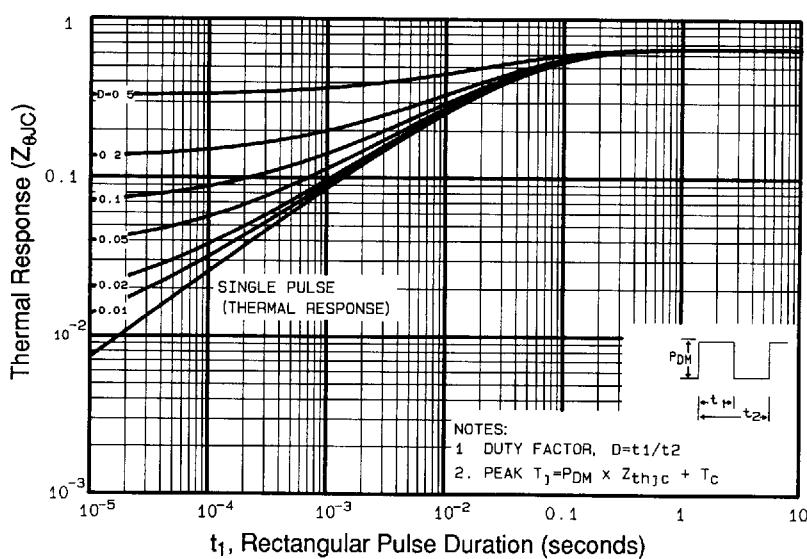

Fig 11. Maximum Effective Transient Thermal Impedance, Junction-to-Case
① Repetitive rating; pulse width limited by max. junction temperature (See Figure 11)
③ $I_{\text{SD}} \leq 11\text{A}$, $dI/dt \leq 100\text{A}/\mu\text{s}$, $V_{\text{DD}} \leq V_{(\text{BR})\text{DSS}}$, $T_J \leq 150^\circ\text{C}$
② $V_{\text{DD}}=50\text{V}$, starting $T_J=25^\circ\text{C}$, $L=13\text{mH}$